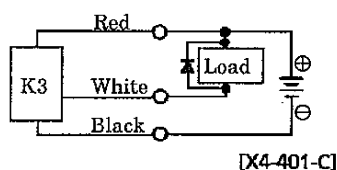

Fig. 3 An example of using inducing load together with surge absorptive element (diode). (Hitachi Mfg. made diode V06C or equivalent is recommended.)
- Install some protective circuit as per illustrated in Fig. 3 when inducing type load (Relay or solenoid valve) are to be used because those types apt to generate surge current at turning switch off.